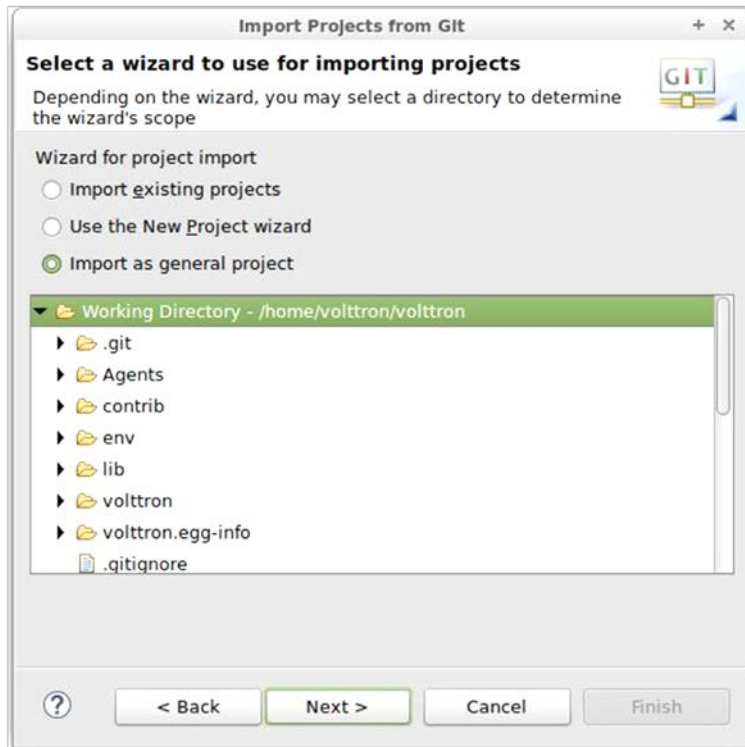

Figure 60: Checking Out VOLTTRON with Eclipse from Local Source (continued)
7. Choose Import as general project and click Next -> Finish, the project will be imported into the workspace (Figure 60)